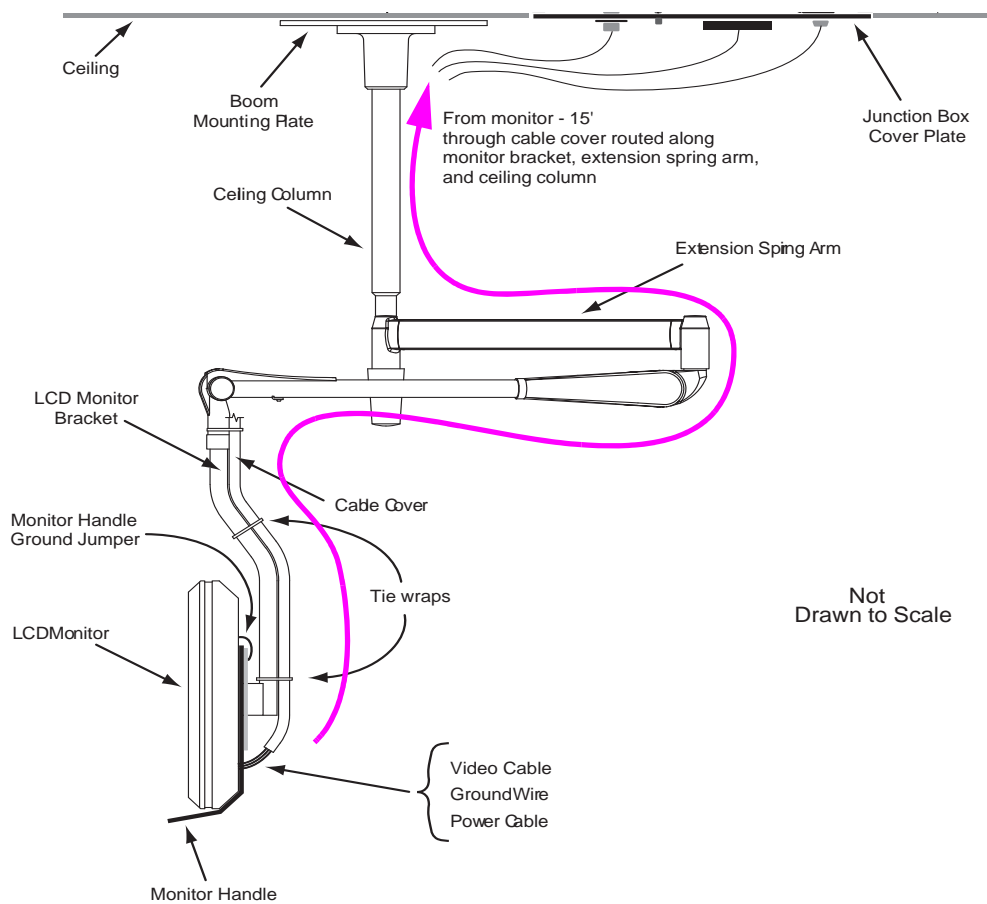

Figure 2-37 LCD Monitor Assembly with Cables and Cover
- 5.) Route the cables along the boom arm through cable cover as shown in Figure 2-37. Leave enough slack at each joint (**especially for DVI video cable from receiver**) to permit the full range of motion without stretching individual cables.